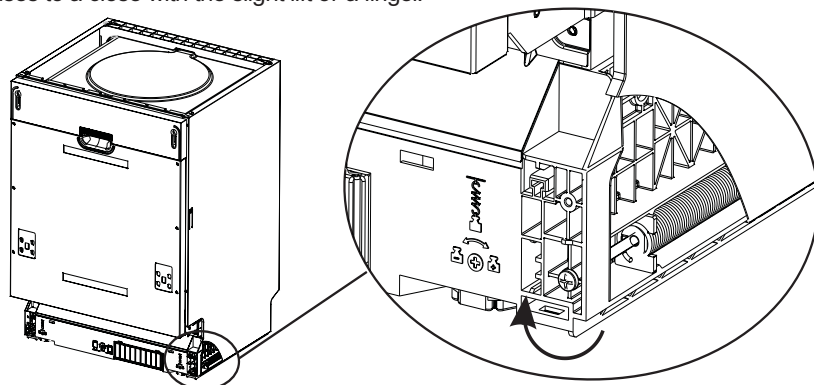

Figure 5 - Tension adjustment of the door spring
2. Adjust **the tension of the door springs** (Figure 5) by using an phillips screwdriver turning in a clockwise motion to tighten the left and right door springs. Failure to do this could cause damage to your dishwasher.
- The door springs are set at the factory to the proper tension for the outer door. If aesthetic wooden panels are installed, you will have to adjust the door spring tension. Rotate the adjusting panel to drive the adjustor to strain or relax the steel cable (see figure 5).